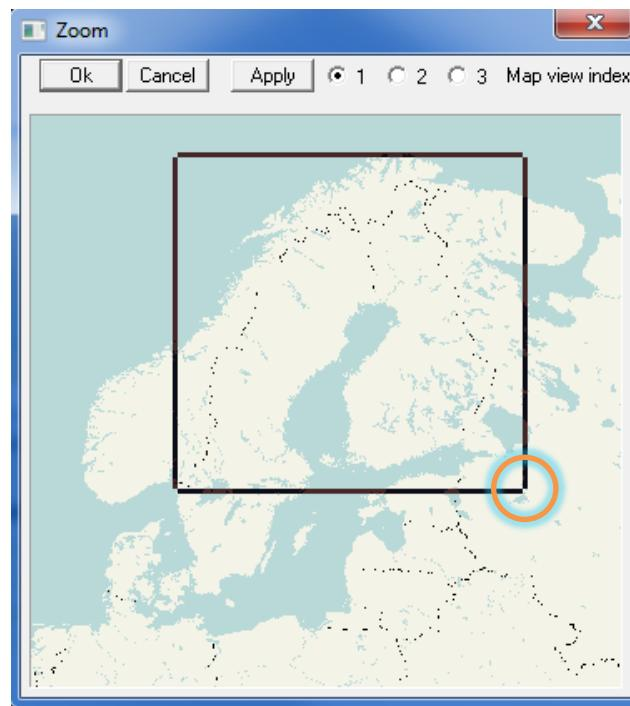

Figure 1.4 Zooming tool. The size of the area can be changed by dragging the lower right-hand corner of the frame.
With zooming tool you can have a closer look at certain areas on a map (Figure 1.4). You can open the *Zoom dialog* by clicking the magnifying glass icon in the toolbar menu.  You can leave the dialog floating next to the editor, if you need to zoom several times. The frame in the Zoom window shows the selected area. After pressing the Apply button, the map view is zoomed to the area inside the frame.
- the frame can be adjusted by clicking the lower right-hand corner and dragging it with the left mouse button (figure 1.4)